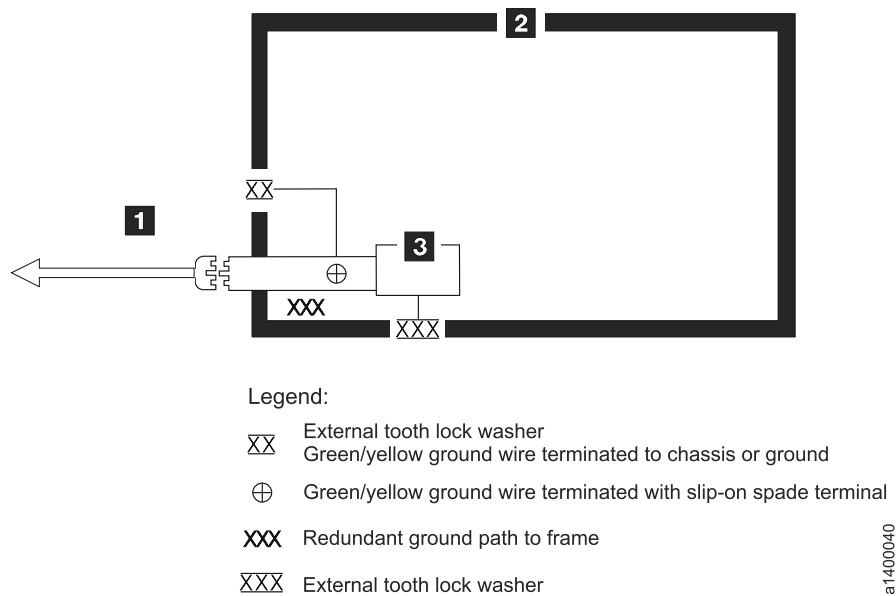

Figure 1. AC Grounding Diagram (50 Hz and 60 Hz)
3. See Figure 1 on page xiii which is provided for reference only. Disconnect the power cord from its source.